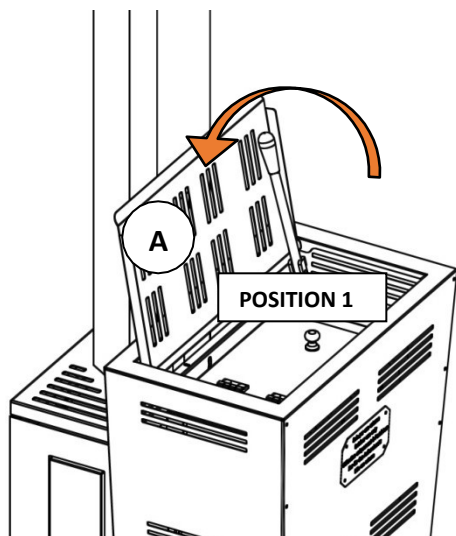

Fig. 9
- Raise the lid **A** and move the pellet loading lever to position 1 (fig.9)